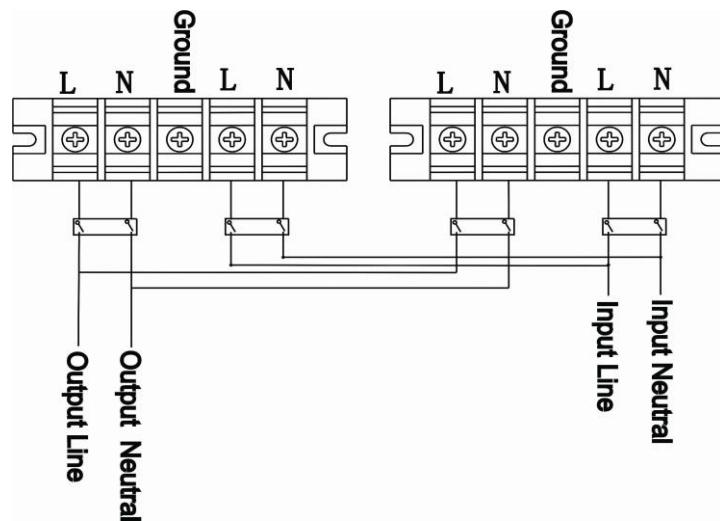

Figure 7: Power cable connection
3. Connect all output breakers to a major output breaker. Then this major output breaker will directly connect to the loads. Refer to Figure 7.